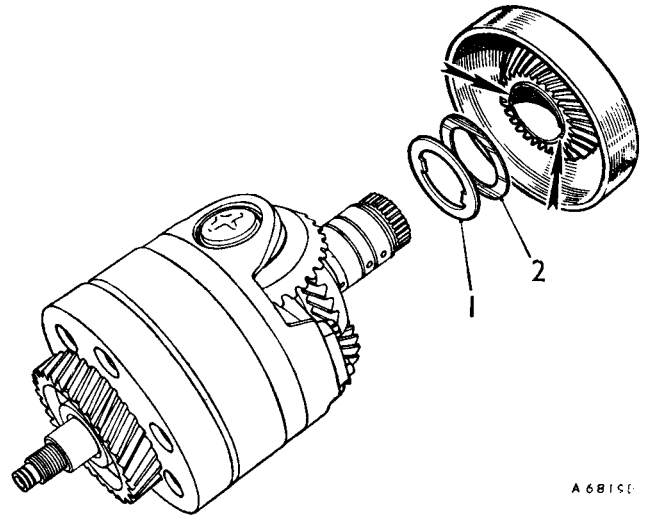

Fig. Fa.54
26. Assemble the third speed reaction gear with its bi-metal washer fitted with the white metal face towards the reverse output gear (see Fig. Fa.54) and with the steel shim(s) located between the bi-metal washer and the gear.
Retain each washer and shim in position with petroleum jelly and refit the assembly to the gear train (see Fig. Fa.54).